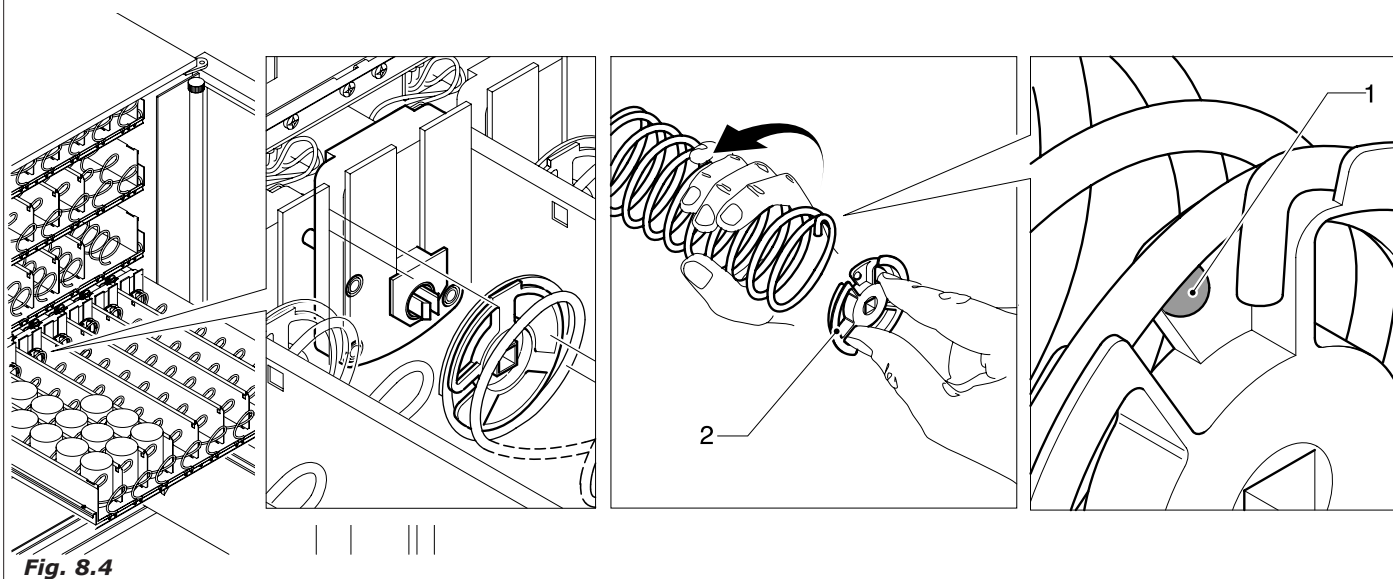

Fig. 8.4
- rotate the spiral in a clockwise sense until it is released on the dragging cam (Fig.8.4)
- couple the spiral behind the notch on the cam (Fig.8.4-pos.1).
- introduce the spiral in the slot on the cam (Fig.8.4-pos.2).